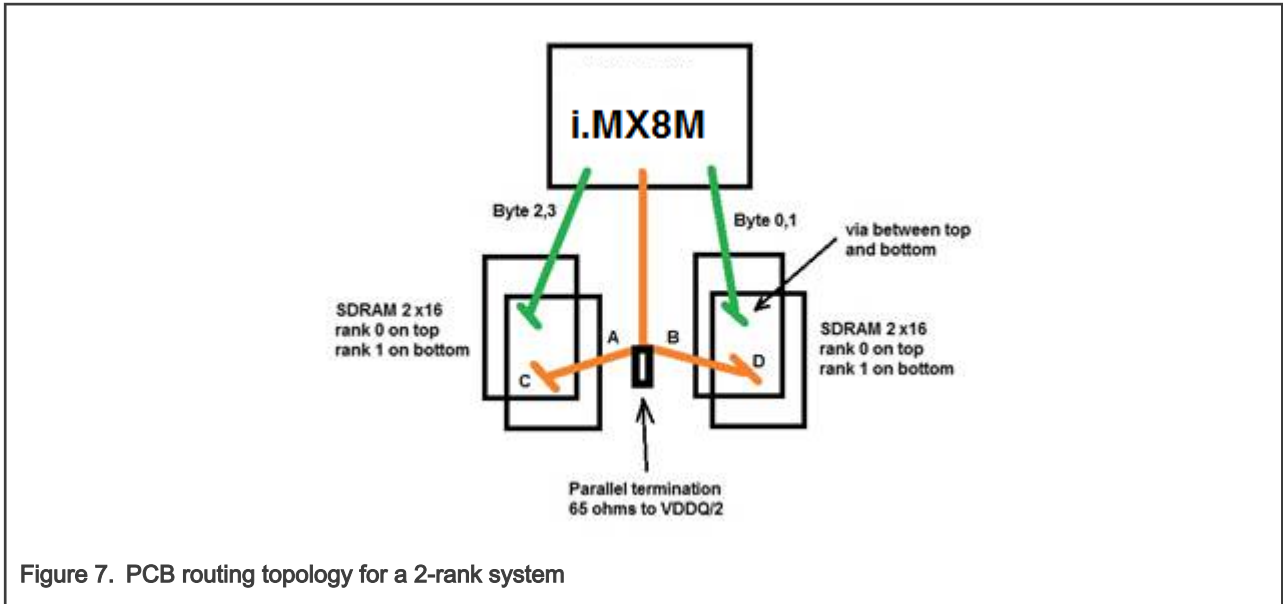

Figure 7. PCB routing topology for a 2-rank system
2. As illustrated in Figure 7, for data bytes, route straight from SOC to the SDRAM devices and via up and down with minimal stubs. For address/command signals, it is a T structure with branch to the SDRAM devices and via up and down with minimal stubs. And add a parallel termination (about 65 Ω to VDDQ/2 or VTT) at the branch point of the T.